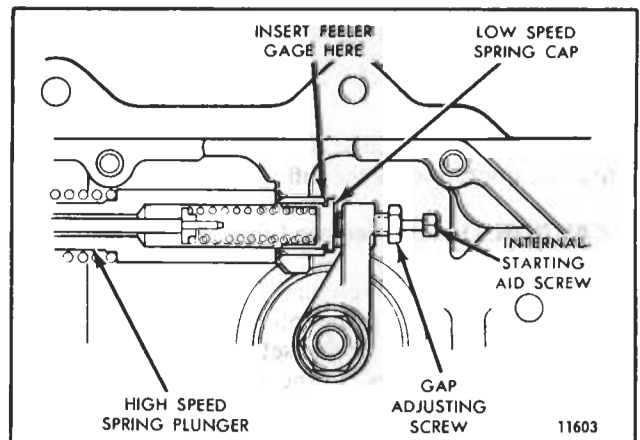

Fig. 3 - Governor Gap Adjustment
6. Check the gap between the low speed spring cap and the high speed spring plunger (Fig. 3) with a .0015" feeler gage. If the gap setting is incorrect, reset the gap adjusting screw. If the setting is correct, the .0015" movement can be seen by placing a few drops of oil into the governor gap and pressing a screw driver against the gap adjusting screw. Movement of the cap toward the plunger will force the oil from the gap in the form of a small bead.